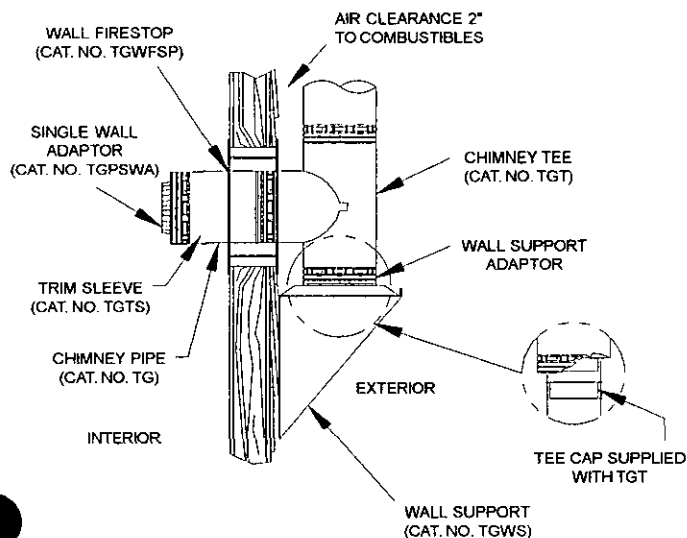

FIG. 6
2. A wall firestop (TGWFS) must be installed in framed opening from the outside. Push remaining half through opening from inside until plate is flush. Use four #10 x 2 1/2" wood screws to attach to opening. (See Figure 6).